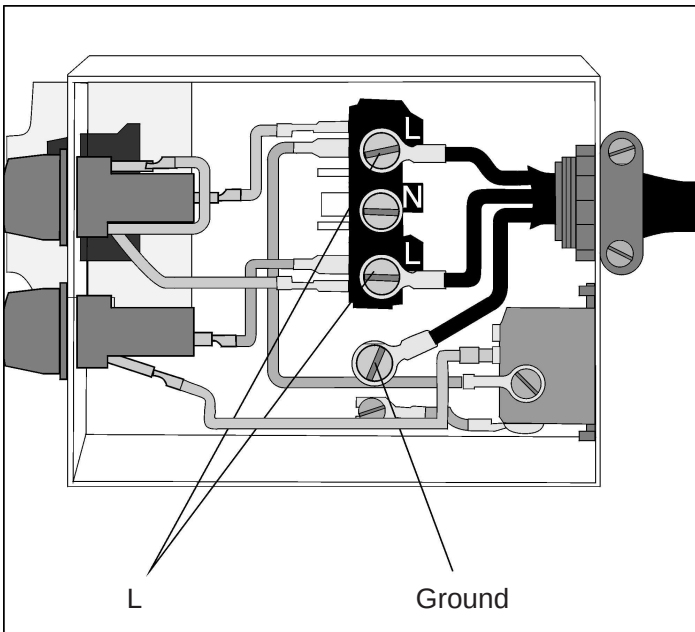

Figure 20.
9. Attach the two remaining power cord outer conductors to the 2 terminals labeled **L**. Tighten both screws so that the power conductors are securely held in place. See Figure 20.